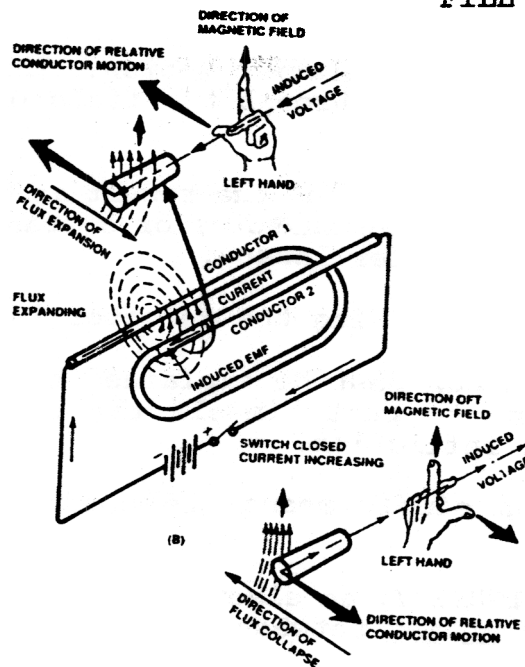

FIGURE 8
In FIGURE 8, a length of conductor is looped so that two portions of the conductor lie next to each other. These portions are labeled conductor 1 and conductor 2. When the switch is closed, current (electron flow) in the conductor produces a magnetic field around ALL portions of the conductor. For simplicity, the magnetic field (expanding lines of flux) is shown in a single plane that is perpendicular to both conductors.
The direction of this induced voltage may be determined by applying the LEFT-HAND RULE FOR GENERATORS. This rule is applied to a portion of conductor 2 that is "lifted" and enlarged for this purpose in FIGURE 8(A). This rule states that if you point the thumb of your left hand in the direction of relative motion of the conductor and your index finger in the direction of the magnetic field, your middle finger, extended as shown, will now indicate the direction of the induced current which will generate the induced voltage counter EMF as shown.
In FIGURE 8 (B), the same section of conductor 2 is shown after the switch has been opened. The flux field is collapsing. Applying the left-hand rule in this case shows that the reversal of flux MOVEMENT has caused a reversal in the direction of the induced voltage. The induced voltage is now in the same direction as the battery voltage. The most important thing for you to note is that the self-induced voltage opposes BOTH changes in current. That is, when the switch is closed, this voltage delays the initial buildup of current by opposing the battery voltage. When the switch is opened, it keeps the current flowing in the same direction by aiding the battery voltage.
From FIGURE 8, we see the result of self induction in one turn (N) of the conductor. Increasing the number of turns will increase the amount of self induction, thus increasing the inductance (L).